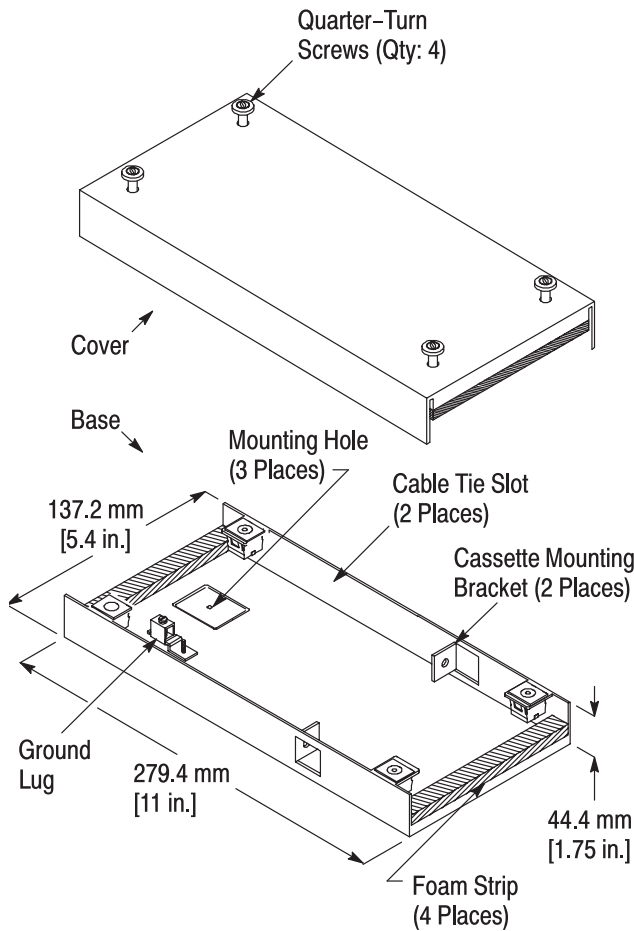

Figure 1
2. DESCRIPTION (Refer to Figure 1)
5. Place the cover over the base as shown in Figure 1. Using the appropriate tool, tighten the quarter-turn screws.
- Modified Figure 1 and text to reflect new design